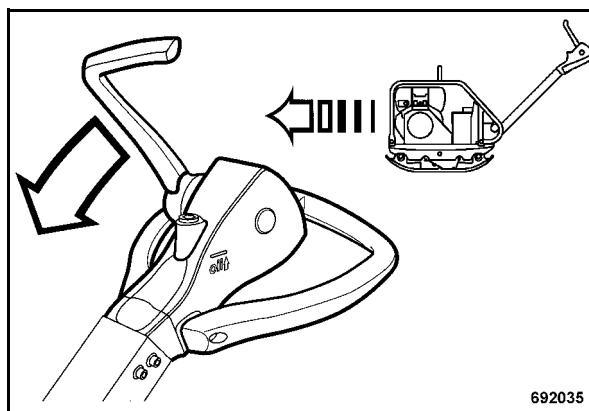

Fig. 29
- Push the travel lever (Fig. 29) forward, until the vibratory plate has reached the desired speed.